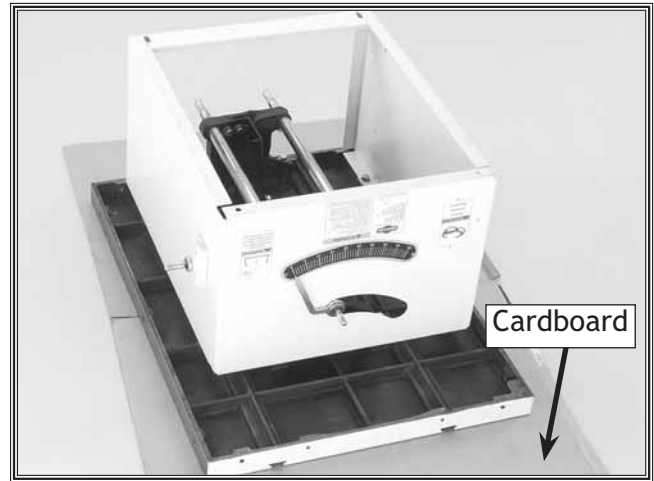

Figure 12. Base unit saw.
1. Lay out a clean, staple-free piece of cardboard or some type of pad to prevent the table surface from getting damaged. Position the base unit of the table saw (table down) on the cardboard, as shown in **Figure 12**.